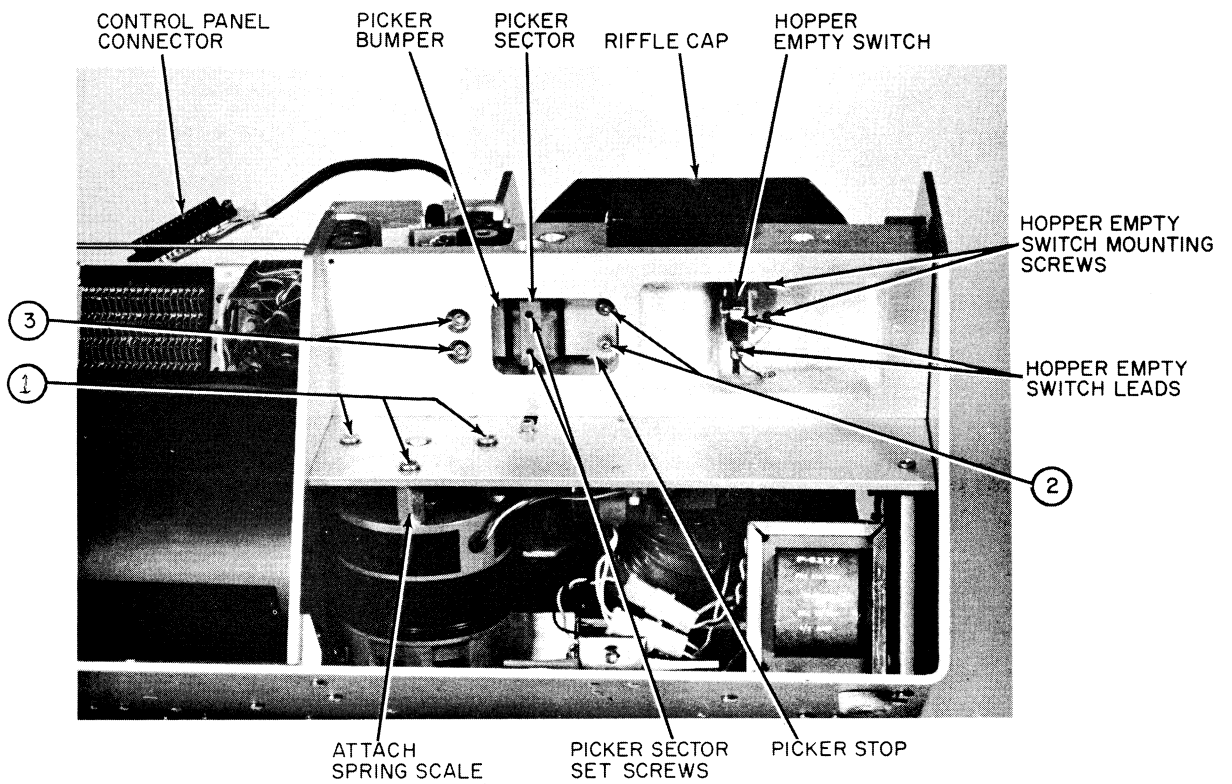

Figure 9-5. Partial Front View, Cover Removed
- k. Disconnect hopper empty switch leads, figure 9-5.
- b. Using a Phillips screwdriver, remove three main drive motor mounting screws ①, figure 9-5, and remove belt from motor pulley. Set motor aside.
6. LOOSEN three screws $\bar{1}$ holding main drive motor, figure 9-5.